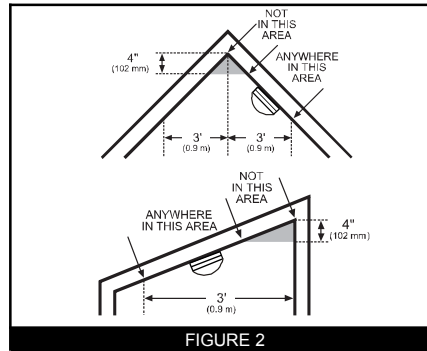

FIGURE 2
- Install Smoke Alarms on sloped, peaked or cathedral ceilings at or within 3ft (0.9m) of the highest point (measured horizontally). (see Figure 2).